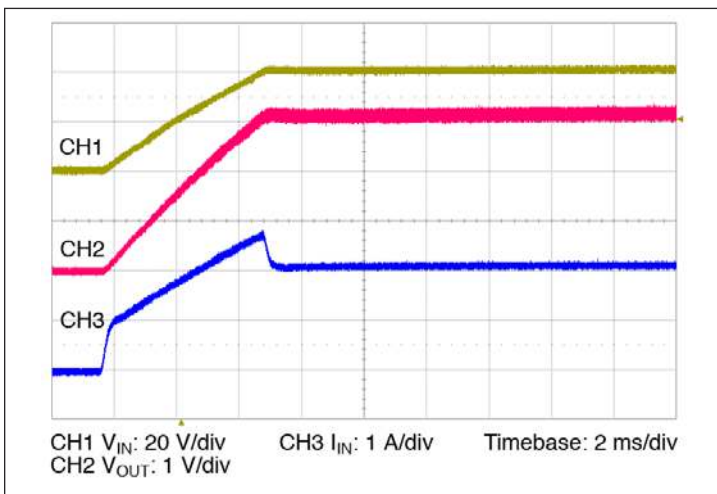

Figure 13 — Start up from application of V_{IN} ; VC pre-applied $C_{OUT} = 0 \mu$ F
- Normal Operation (VC applied prior to V_{IN}): In this case the controller is active prior to ramping the input. When the input voltage is applied, the VTM output voltage will track the input (See Figure 13). The inrush current is determined by the input voltage rate of rise and output capacitance. If the VC voltage is removed prior to the input reaching 26 V, the VTM module may shut down.